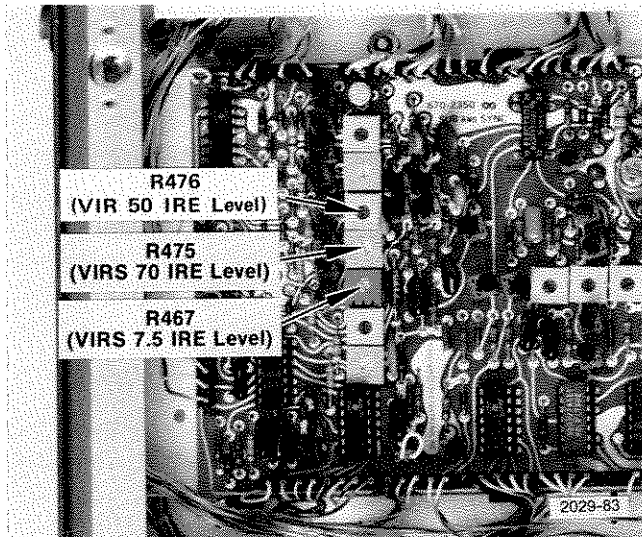

Fig. 3-15. 149A Subcarrier & Sync circuit board showing location of VIRS pedestal adjustments.
**ADJUST(149A)**—VIRS pedestal amplitudes as follows (see Fig. 3-15 for 149A adjustment locations):